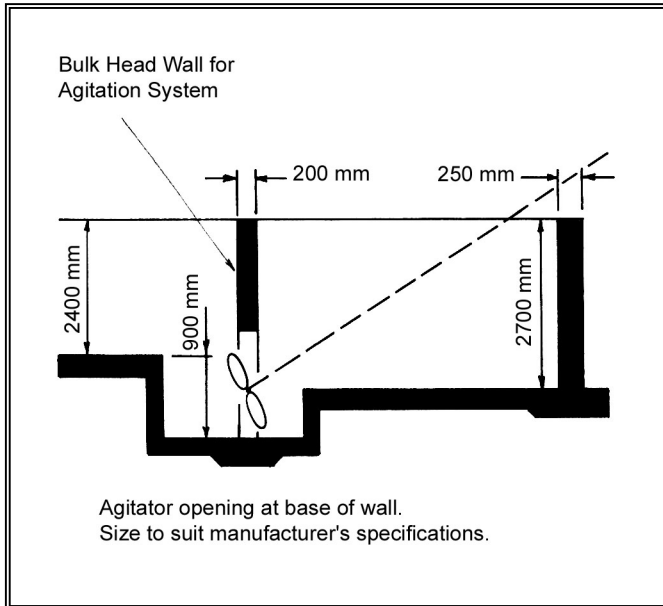

Figure 3
15. The agitation system is a very important aspect of the system design. In all cases, the main agitator fits through a bulkhead wall. The agitator opening should be sized to meet the manufacturer’s specifications and should be located at the base of the bulkhead wall. See Figure 3 for a typical cross-section of the agitator access port. It is good design for the agitator area